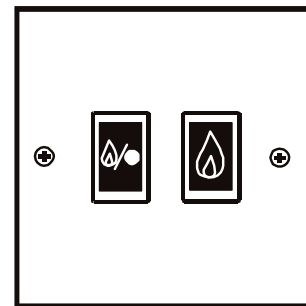

Figure 13 - Wall Switch
1. Ensure the main burner is off by pressing the button on the trim marked  ('small flame/dot') until clicking is heard on the valve (see **Figure 13**).
7. Press and hold the  ('large flame') button (in **Figure 13**) until clicking is heard (fully open).